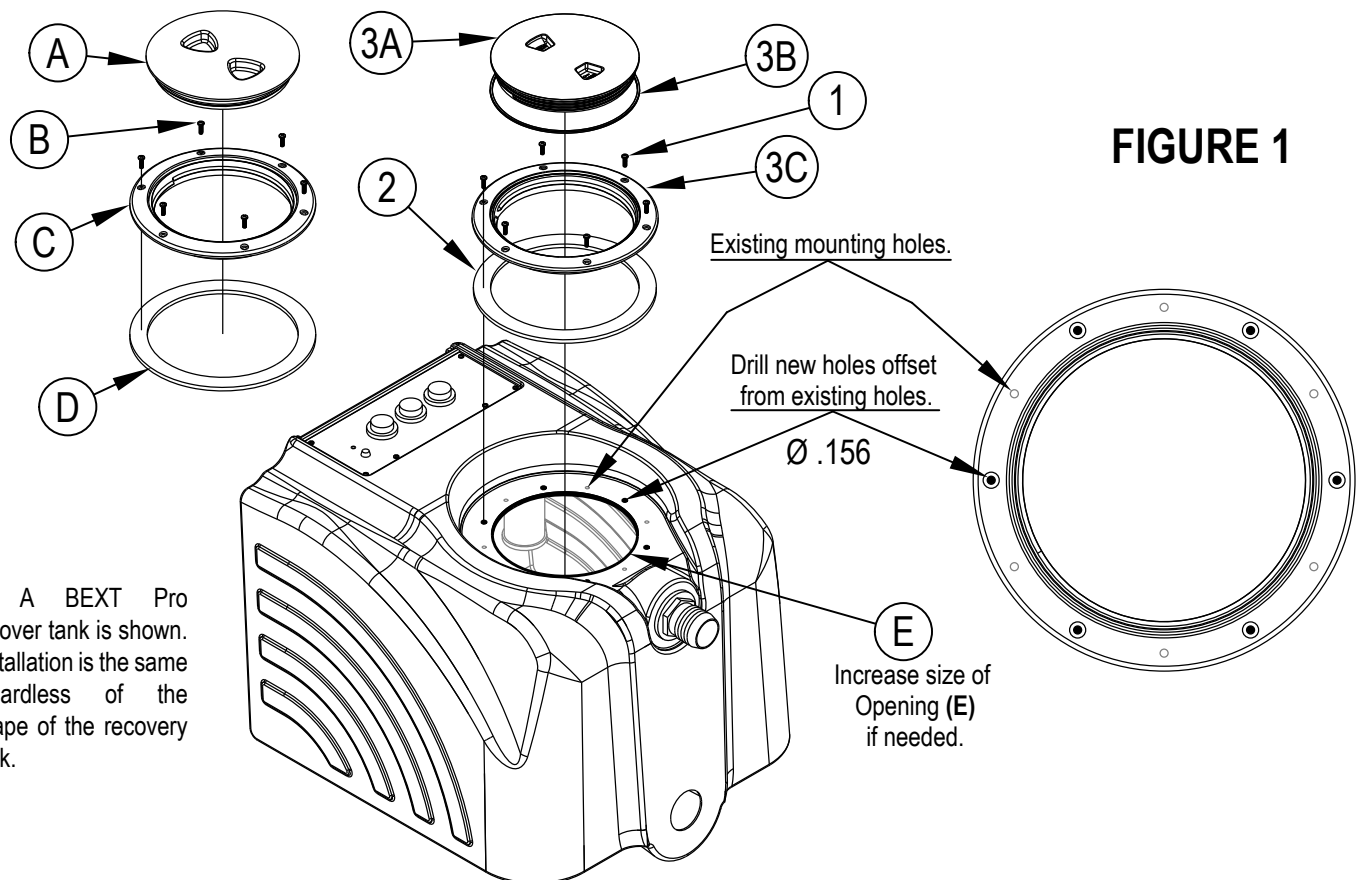

FIGURE 1
- 2 SEE FIGURE 1. Unthread existing Lid (A) from ring (disconnect chain attaching it to the tank if present).
- 3 Remove the six ring mounting Screws (B) and then remove the Ring (C) from the recovery tank.
- 4 Remove the Gasket (D) and clean off any remaining adhesive.